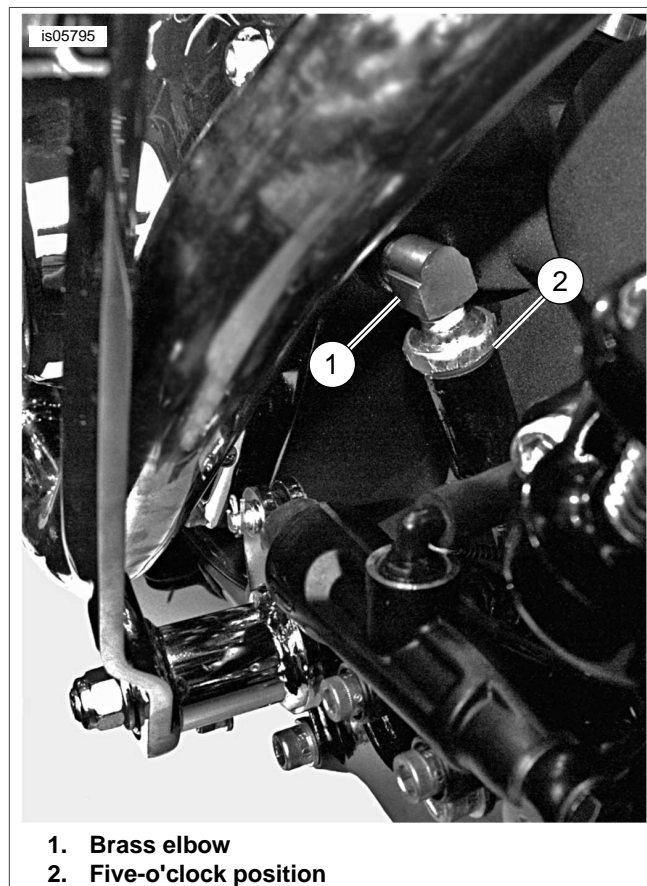

Figure 2. Relocate Oil Pressure Sensor
5. See Figure 2. Install elbow (1) until snug so open end is in the five-o'clock position (2). Do not over-tighten or crankcase may be damaged.